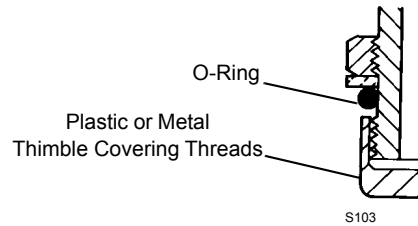

FIGURE 2-2
- Be careful not to cut O-rings when assembling them to fittings. Use thimble as shown in Figure 2-2 when assembling O-ring over threads.